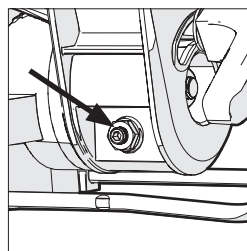

Fig. 9
- Loosen the locknut on the bevel angle adjustment screw with a 10mm spanner and 3mm Hex key (Not supplied) (Fig. 9).